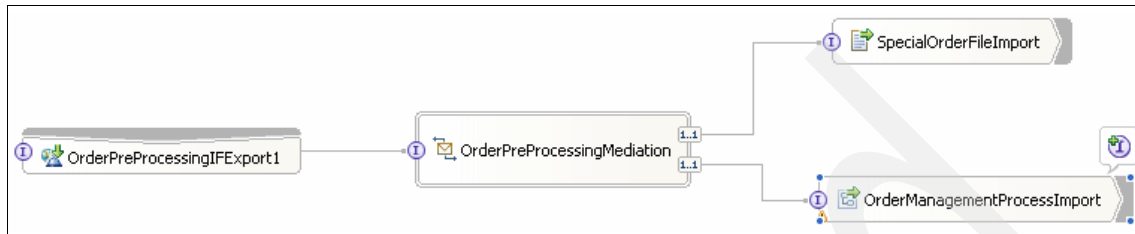

Figure 7-28 OrderPreProcessing assembly diagram
1. Open the OrderPreProcessing assembly diagram as shown in Figure 7-28.